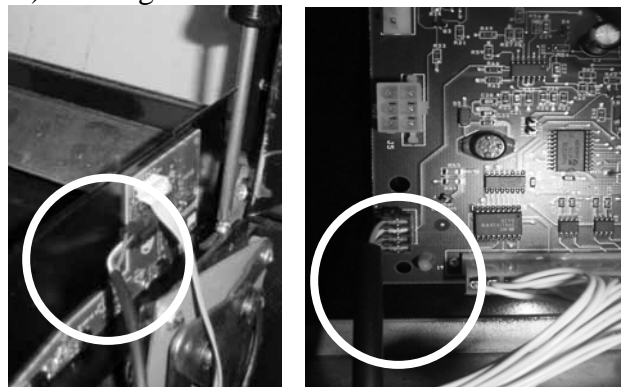

Figure 6.
7. Connect the receiver board to the control board. Use the Sensor to Control Cable that is already connected to the receiver board. The unconnected end will plug into the Drop Sensor header, J19 (J9 for LCM kits), of the vending machine controller (VMC). See Figure 6.